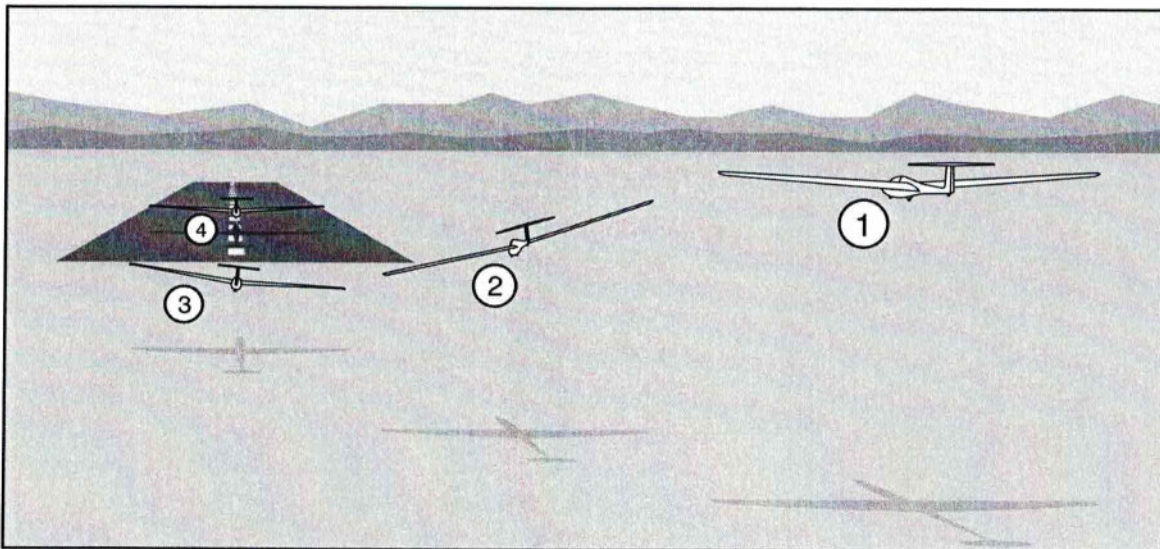

Figure 5.16 – A side slip on final being used to correct a misalignment on final
A side slip is illustrated in Figure 5.16. As you enter the side slip, use coordinated controls to bank the wings ①, then use opposite rudder to keep the nose pointing parallel to the runway. Use the ailerons with opposite rudder to maintain the slip ②.